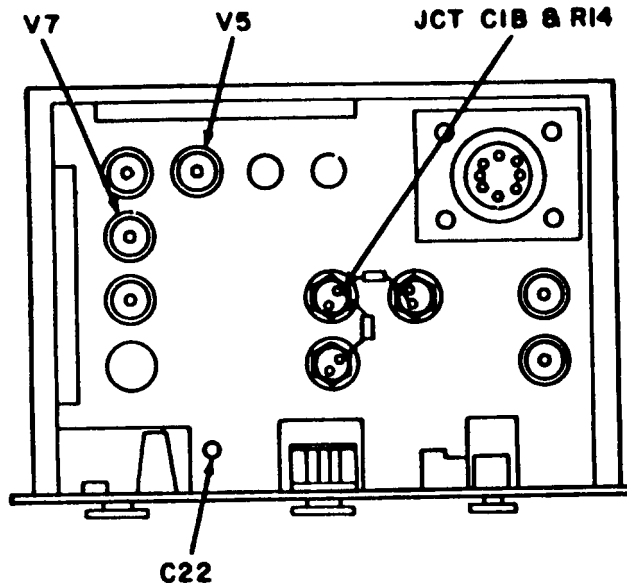

Figure 2. Test instrument - bottom view.
- (3) Connect digital voltmeter (A5) between C22 (fig. 2) and chassis ground, using two clips (B6).
- (4) Record digital voltmeter indication.
- (5) Set **BIAS-READ** switch to **BIAS**. If digital voltmeter indication is not same as recorded in (4) above, perform **b** below.
There is a voltage of -225 V dc at junction of C1B and R14 (fig. 2). Exercise extreme caution when connecting digital voltmeter to TI in (3) below.
- (3) Connect digital voltmeter positive terminal to pin 7 of V5 and negative terminal to junction of C1B and R14 (fig. 2).
- (5) Connect digital voltmeter positive terminal to pin 6 of V7 (fig. 2).